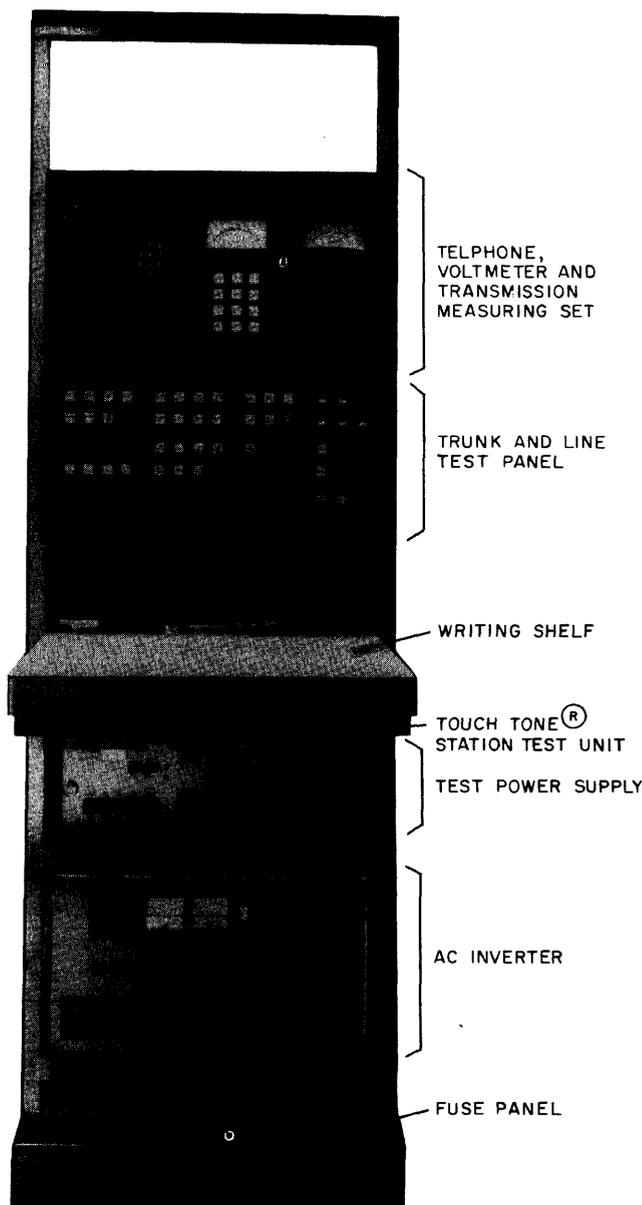

Fig. 5—Test Frame
**3.14** The peripheral test unit contains the following test circuits. These circuits and their function are also listed. This unit is located behind the TLTP on the test frame (Fig. 5).